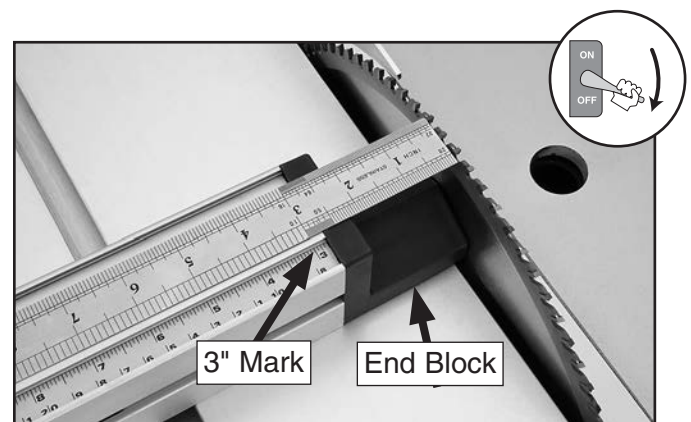

Figure 103. End block aligned with blade.
3. Move crosscut table (refer to **Positioning Crosscut Table Along Sliding Table** on **Page 56** for instructions) so fence end block is aligned with center of blade (see **Figure 103**).
4. Place precision ruler against a blade tooth, as shown in **Figure 103**, then adjust fence so that 3" mark on fence scale is exactly 3" from blade tooth.